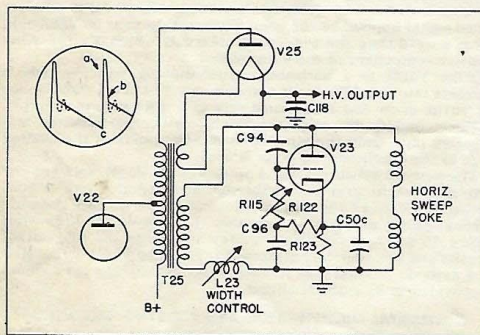

Fig. 7. Horizontal Sweep Output
6. HORIZONTAL SWEEP OUTPUT (SEE FIGURE 7)—The horizontal sawtooth voltage generated by the multivibrator, V21, is shaped and then amplified by a Type 6BG6G tube, V22. The output of this tube is coupled to the horizontal deflection coils through an impedance-matching transformer, T25. An oscillatory voltage, as shown in the dotted line in the waveshape at the upper left of Figure 7, which results from the rapid retrace in the transformer T25, is removed by the damping tube, V23. This tube is a dual triode, Type 6AS7G, and by its use the transient may be damped, linearity controlled, and the positive overshoot voltage retained for use in the high voltage supply. The linearity of the horizontal trace is controlled by varying the voltage waveshape applied to the grid of V23 by potentiometer, R115. The horizontal size is controlled by the adjustable iron core inductance, L23, which is in series with the output to the yoke.
8. HIGH VOLTAGE SUPPLY (SEE FIGURE 7)—The high voltage is derived by making use of the inductive "kick" voltage produced during retrace in the horizontal output transformer. This "kick" voltage is shown in the waveshape shown as "c to b" in Figure 7. This voltage is generated in the primary winding and is further increased by an additional winding added to the transformer which connects to the rectifier tube plate of V25. The rectifier tube, V25, is a Type 8016 which derives its filament voltage from the horizontal sweep transformer T25 by a single turn around the transformer. Because of the high frequency (15,750 cps) which is rectified, a 500 mmf. capacitor is more than sufficient for filtering purposes.